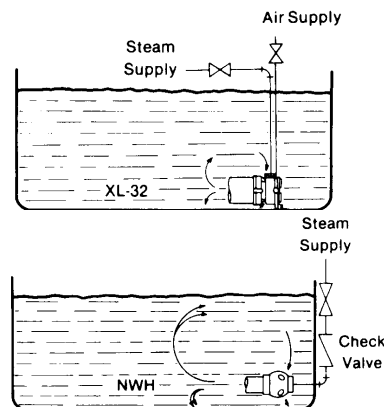

Figure 2
The angular intersection of surfaces in cylindrical, square, or rectangular tanks can interrupt liquid flow patterns and cause liquid stagnation in these areas. A single jet heater mounted as shown in Figure 2 will tend to minimize this effect. However, multiple steam jet heaters can often produce more efficient circulation when using these tank shapes. To avoid significant steam pressure drop, never use smaller steam pipe than the heater connection size.
- c. For noiseless operation when steam supply pressure is below 60 psig (415 kPaG), a connection is provided for piping in atmospheric air. The steam jet heater will pull in the outside air which must be regulated with a small valve to the minimum which produces the quietest operation. The air inlet must be turned downward as shown in Figure 2 to help keep out foreign material and to protect against possible back flow of steam through air inlet line.